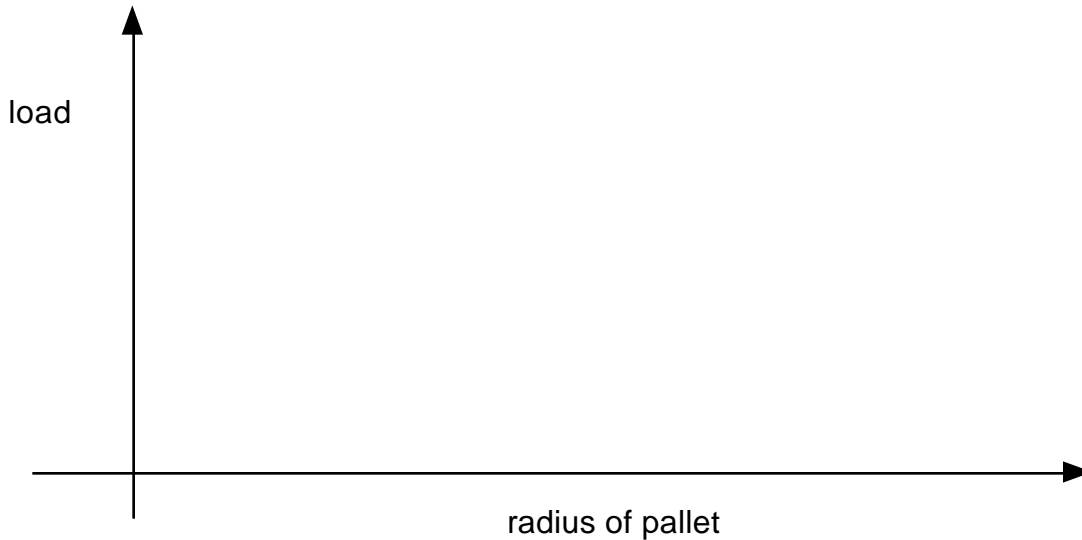

Figure 2
- 2) Graph the load of a full tank of water as a function of the radius of the pallet (from Part III Exercise 2) on your calculator, and sketch the graph on the coordinate axes in Figure 2. Use a reasonable domain in your sketch based on the information from Part IV Exercise 1, and determine an appropriate corresponding range. Label the axes appropriately.